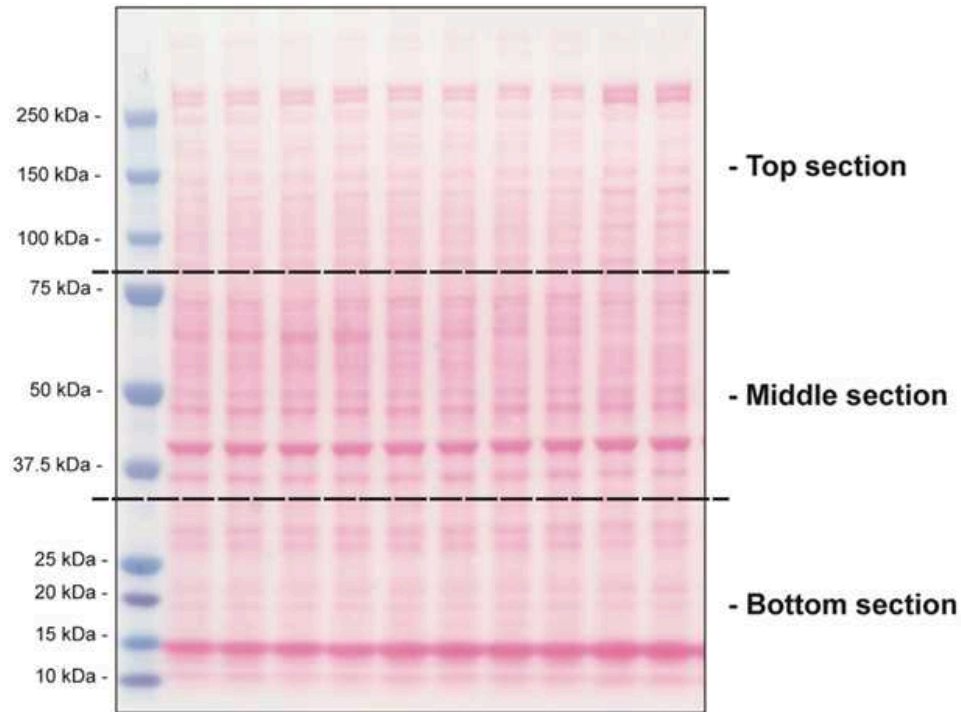

Figure 1. Ponceau-stained membrane.
- 19 Each membrane can be divided into three sections by two horizontal cuts (one cut just above the 75 kDa ladder band and another cut between the 37.5 kDa and 25 kDa ladder bands) (Figure 1):